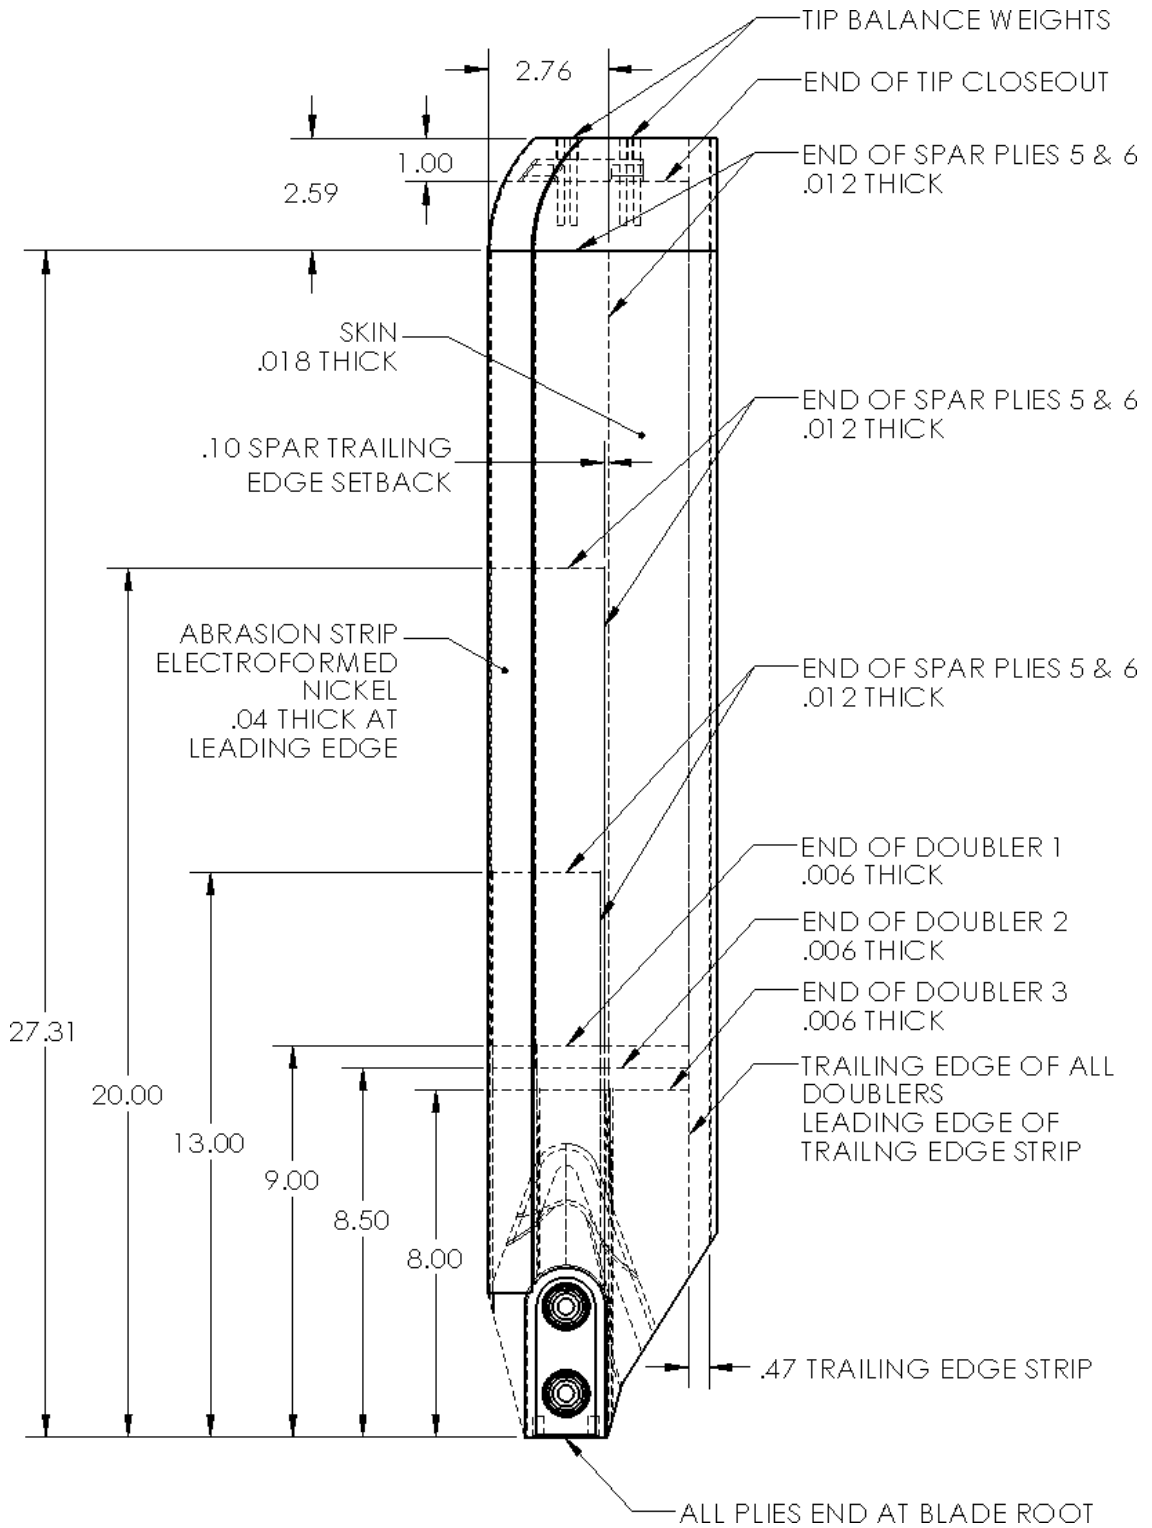

Figure 5-1
The internal structure of the blade will cause tone changes during the tap test. Figure 5-1 shows the blade's internal components with their approximate locations and shapes. Tone changes can be expected as the tap test traverses the various blade sections. Tone changes that are not associated with internal component boundaries should be treated as suspected voids. Van Horn Aviation recommends the use of an Abaris Tap Hammer for tap inspections (SKU: ABATH).
- d. Tap test an area 1.0 inch radius from the center of any abrasion strip dent to search for voids in the underlying composite material. See Figure 5-1 for locations of ply drop-offs. A tonal change may occur at these drop-offs when tapping across them depending on tapping force. If a void is on or near a ply drop-off, it is recommended to tap an undamaged blade in the same area to help distinguish a tonal change from a void.
Figure 5-1 shows the blade internal components including locations of ply drop-offs. Take note of the various thicknesses and ply drop-off locations. A tonal change may occur at these drop-offs when tapping across them depending on tapping force. If suspected damage is on or near a ply drop-off, it is recommended to tap an undamaged blade in the same area to help distinguish a tonal change from a void.